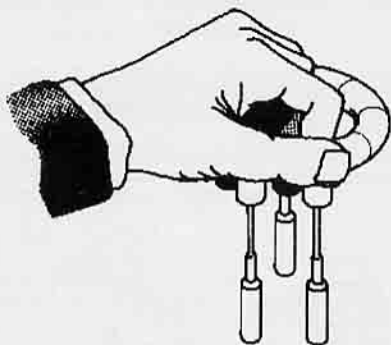

Fig.4
- Holding the replacement assembly as shown in Fig.4 and locate the three brass sockets onto the plugs in the front of the unit. Press down evenly until all the plugs and sockets are fully engaged. Pass the trigger wire through the hole in the trigger terminal tag and wind around the tag, ensuring that the trigger wire does not touch the metal top hat.